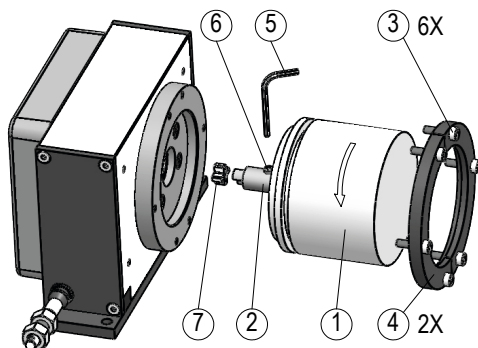

Fig. 4: Encoder mounting
The wire actuated unit is ready to be fitted to an incremental or absolute encoder (**Fig. 4**).
1. For adjusting the reference point loosen the screws ⑥ (see Fig. 4) until the encoder can be turned.